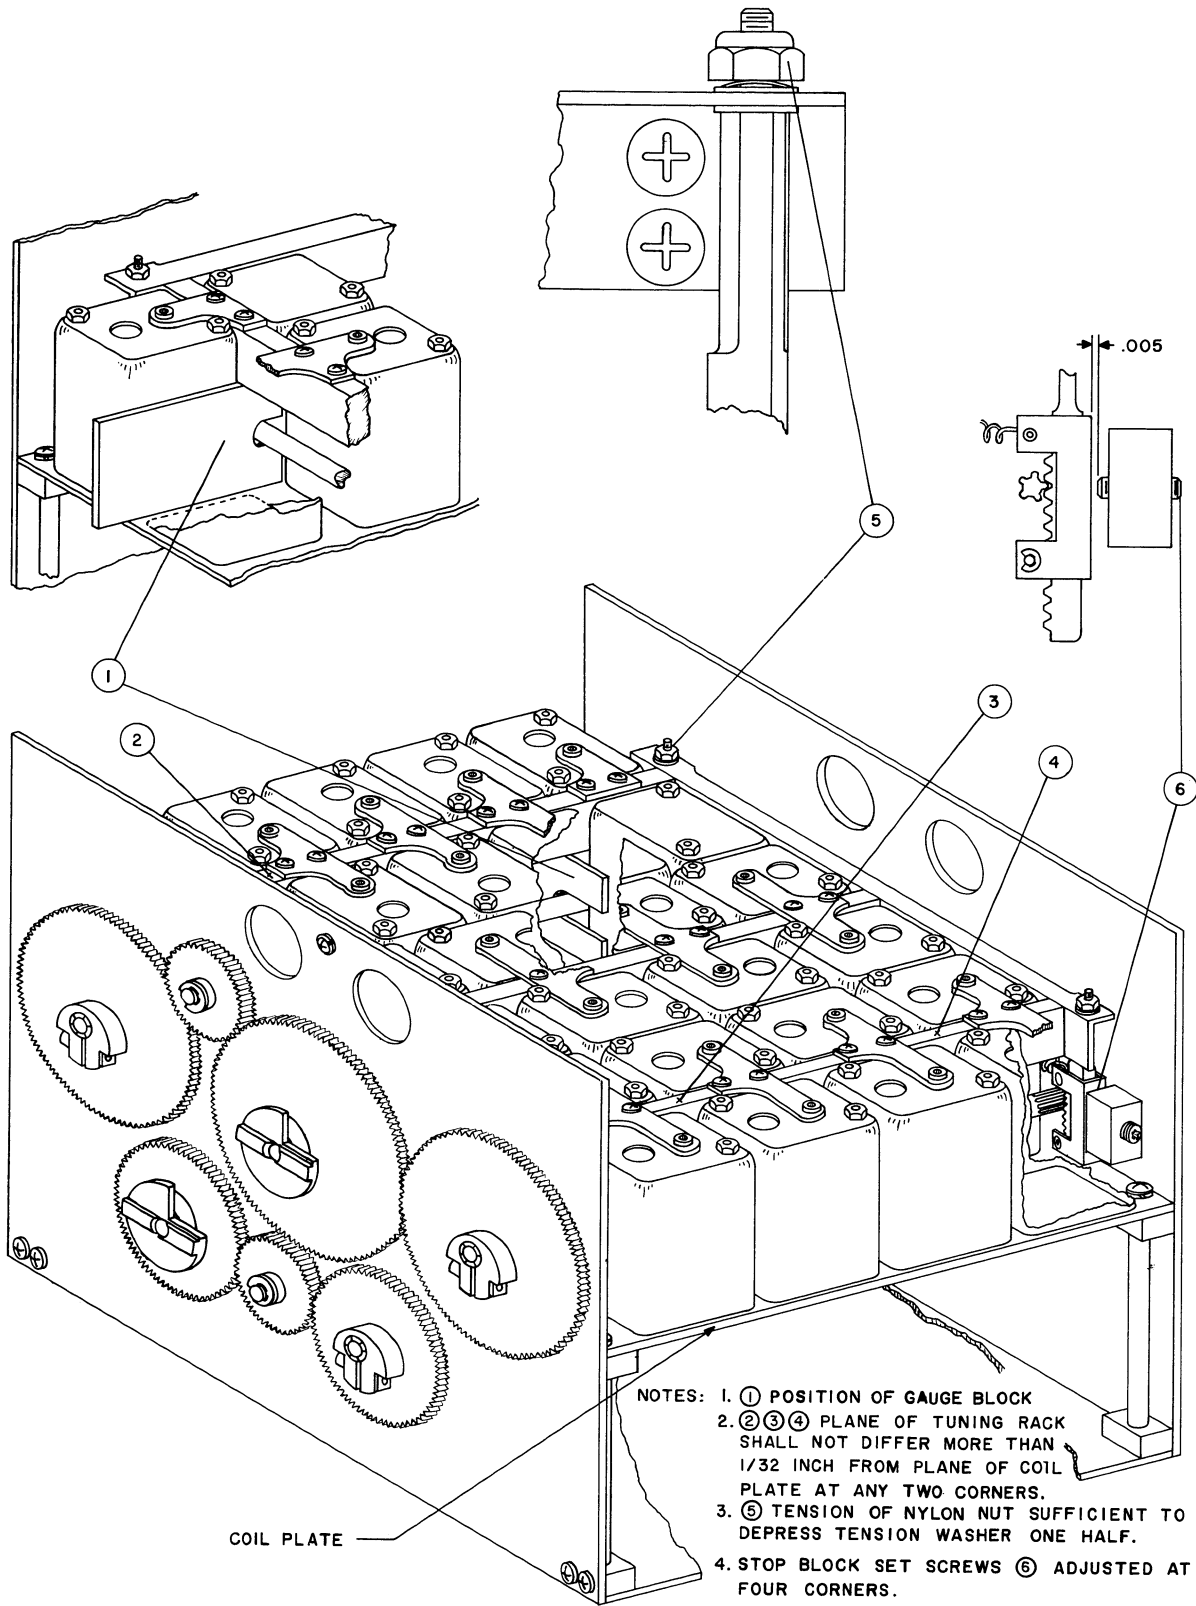

Figure 6-13. R-F Tuner, Special Alignment Points
The tuning rack is in its bottom position when the bottom side of the tuning rack is 1.375 (1-3/8) inch from the top side of the coil plate. The gauge block may be used to measure this distance. Refer to figure 6-13 for positioning of the gauge block.
a. Excessive slug drag: To remedy excessive slug drag, place the tuning rack in its bottom position; then center the misaligned slug in its coil form by adjusting the slug tab. Refer to figure 6-13.
In order to disengage the linear gear from the pinion gear, it is first necessary to loosen the stopblock setscrew. Refer to figure 6-13 for location of these parts.
d. Adjustment of stopblock setscrews: To prevent the linear gear from slipping a tooth with respect to the pinion gear in the event of severe jarring, a stopblock with a setscrew has been placed on the tuner frame. The setscrew in the stopblock limits the distance that the linear gear carriage may move. Spacing between the setscrew and the linear gear carriage should be 0.005 inch. This 0.005-inch spacing may be accomplished by using a shim or spacer. Make this adjustment on all four corners. Refer to figure 6-13.
c. Slip the gauge block into place between the coil shields as indicated in figures 6-13 and 6-14.